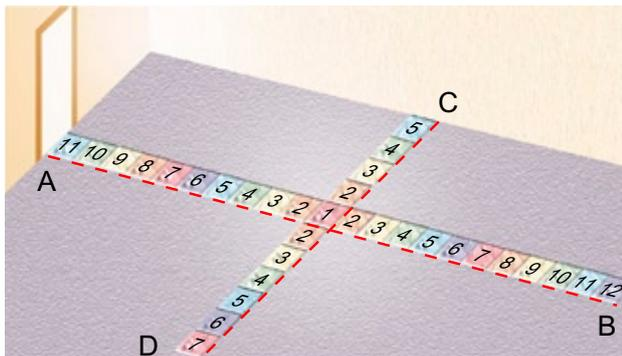

Fig. 1: Measuring for application of tiles
5.4.1 Measuring for laying tiles (Fig. 1)